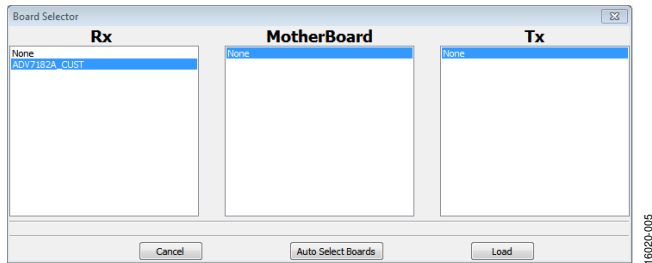

Figure 6. **Board Selector** Window of *DVP Eval Software*
2. Click the **Choose Board** button in the top left corner of the **DVP Eval Software** window to open the **Board Selector** window (see Figure 6).